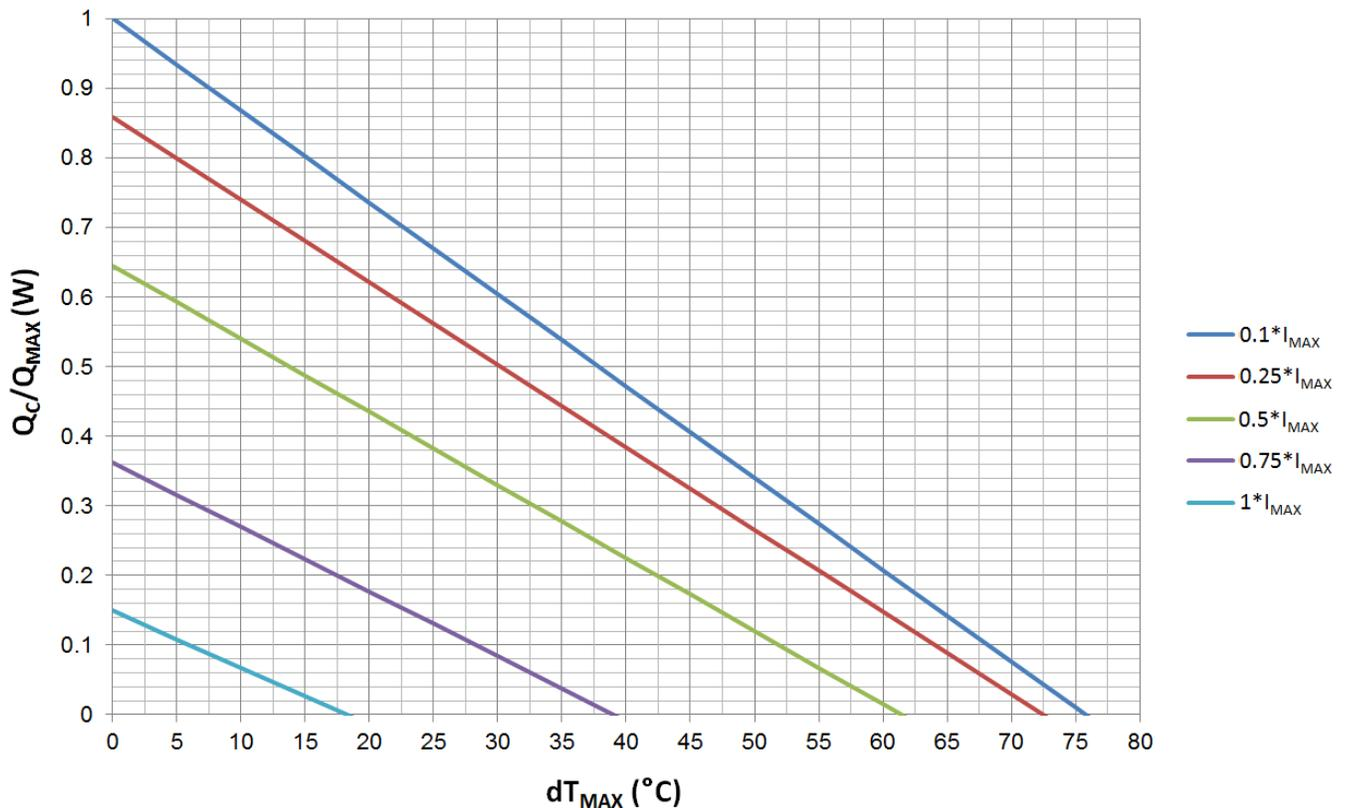
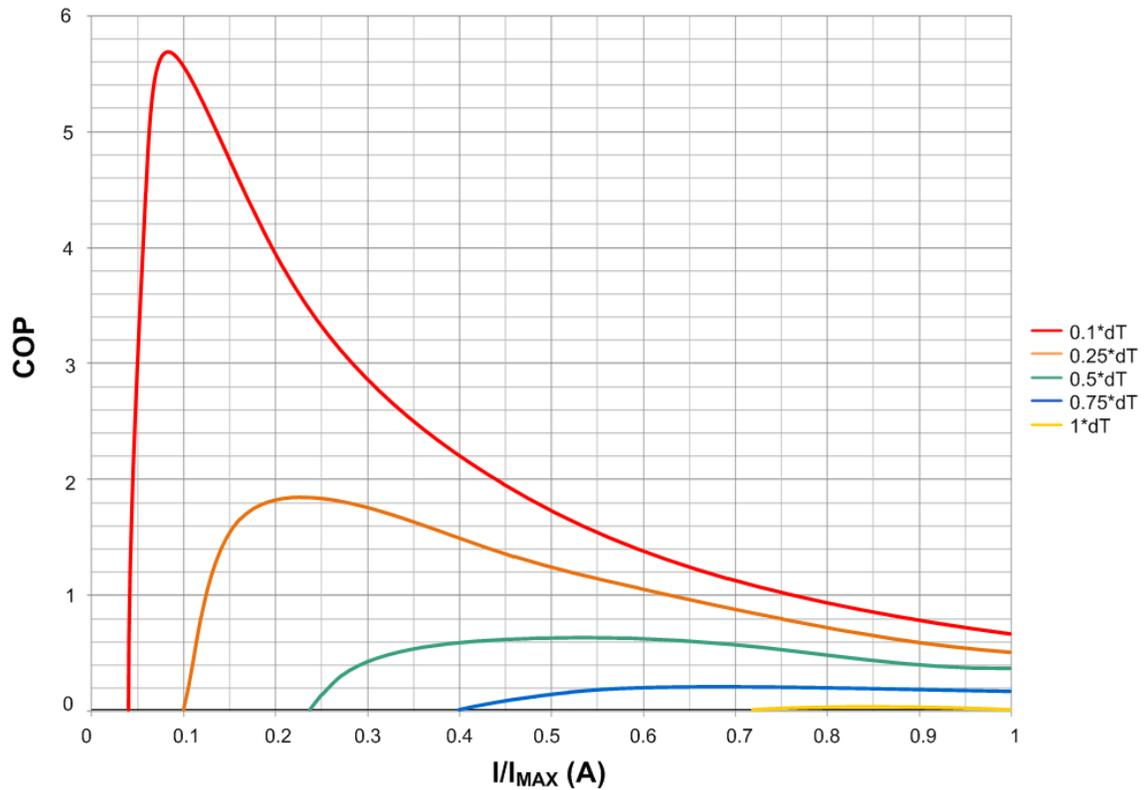
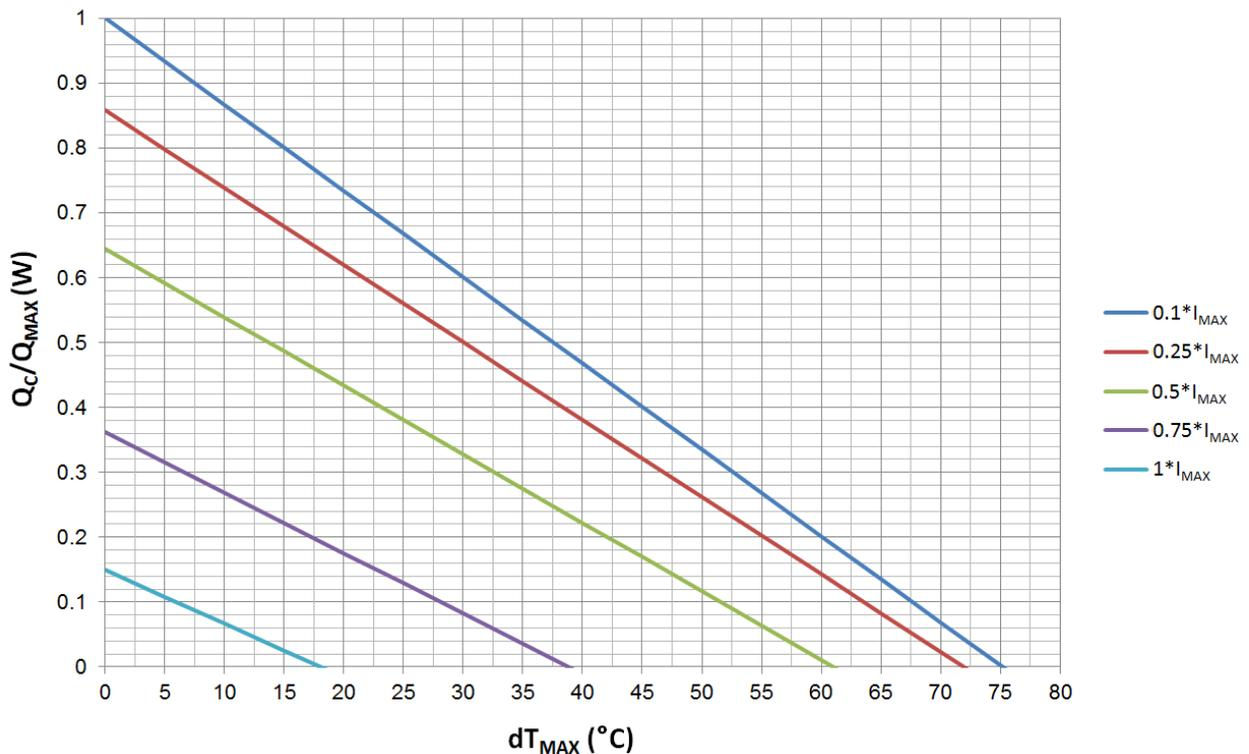
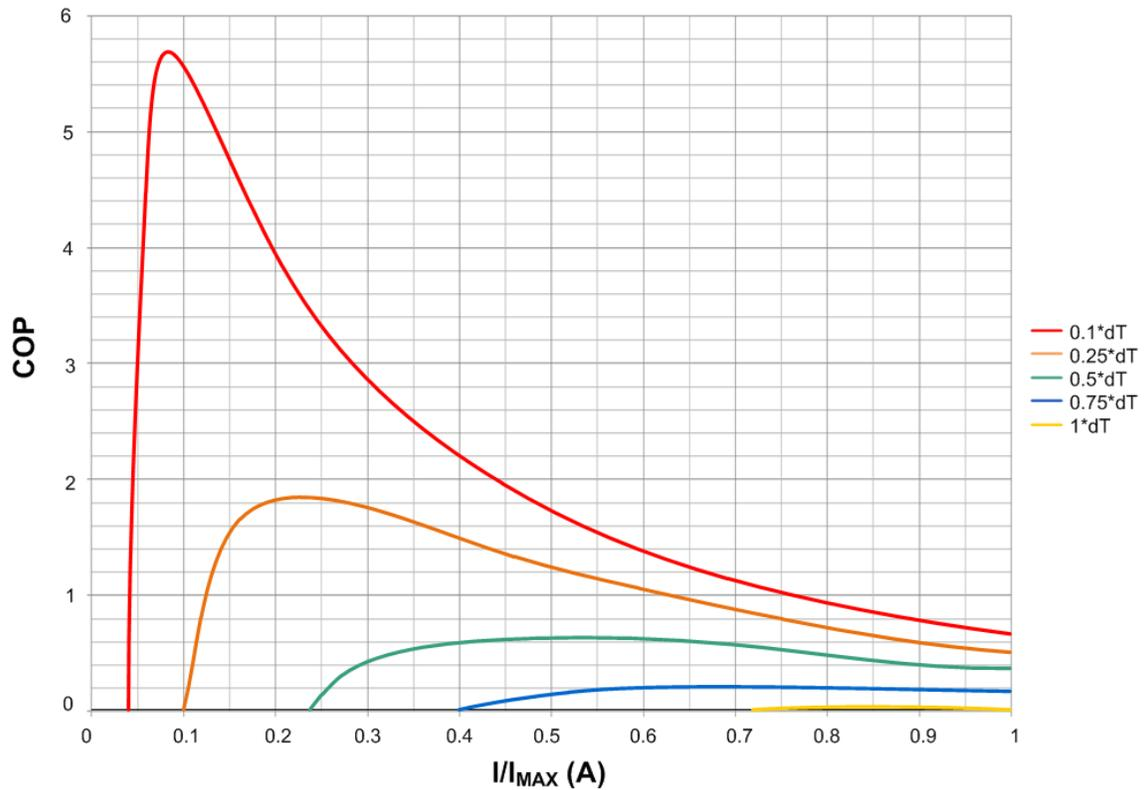

Figure 2.  $Q_c/Q_{\text{MAX}}$  vs.  $dT_{\text{MAX}}$
Figure 5. COP vs.  $I/I_{MAX}$
Figure 6.  $Q_c/Q_{MAX}$  vs.  $dT_{MAX}$
Figure 9. COP vs.  $I/I_{MAX}$
- Use the charts provided in Figure 2 to Figure 5 and Figure 6 to Figure 9, to decide which TEC to use, what is the heat needed to be dumped through the heat sink, what is the heat sink temperature, etc.